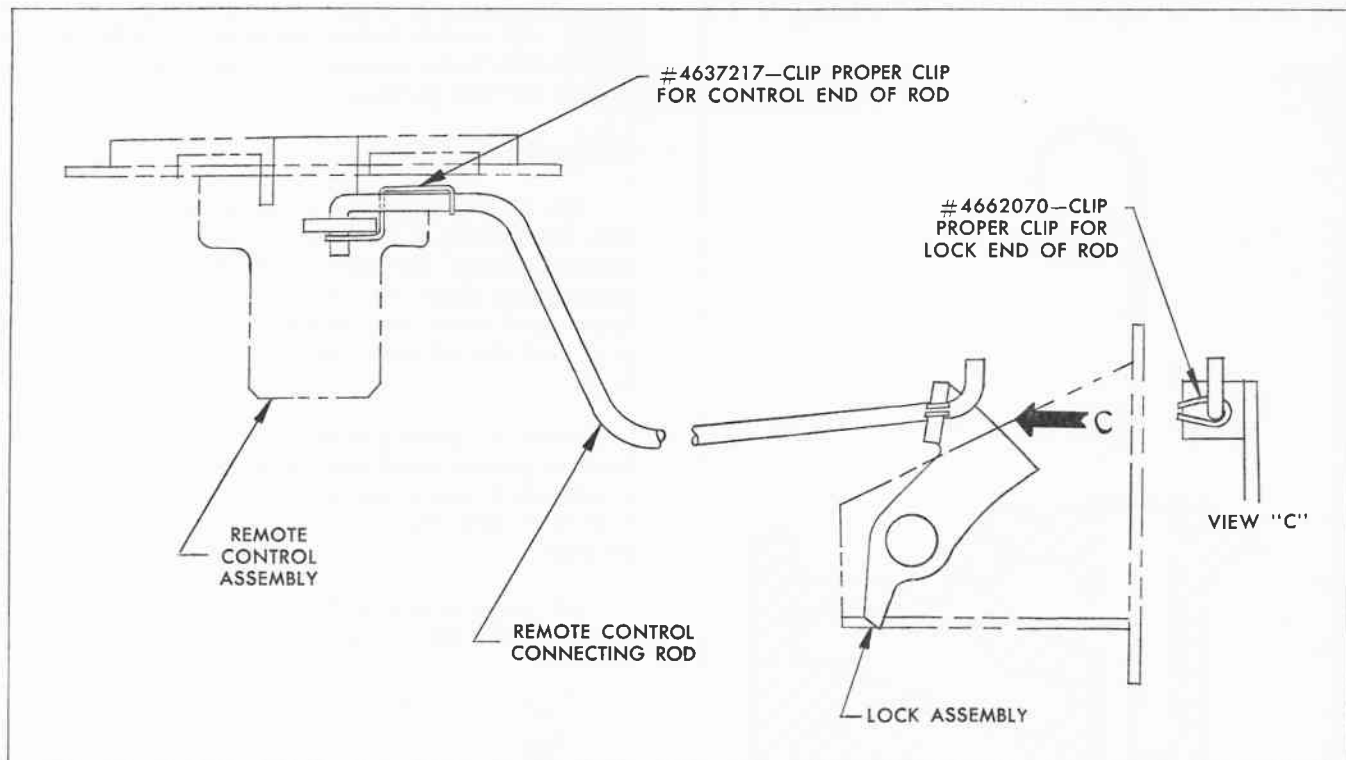

Fig. 12 View Through Area B Fig. 10
5. Check for clip #4662070, shown in Fig. 12, View "C", used at lock end of connecting rod. If a different type clip is used at one or both locks, remove clip(s) and install correct clip, as shown in Fig. 12.